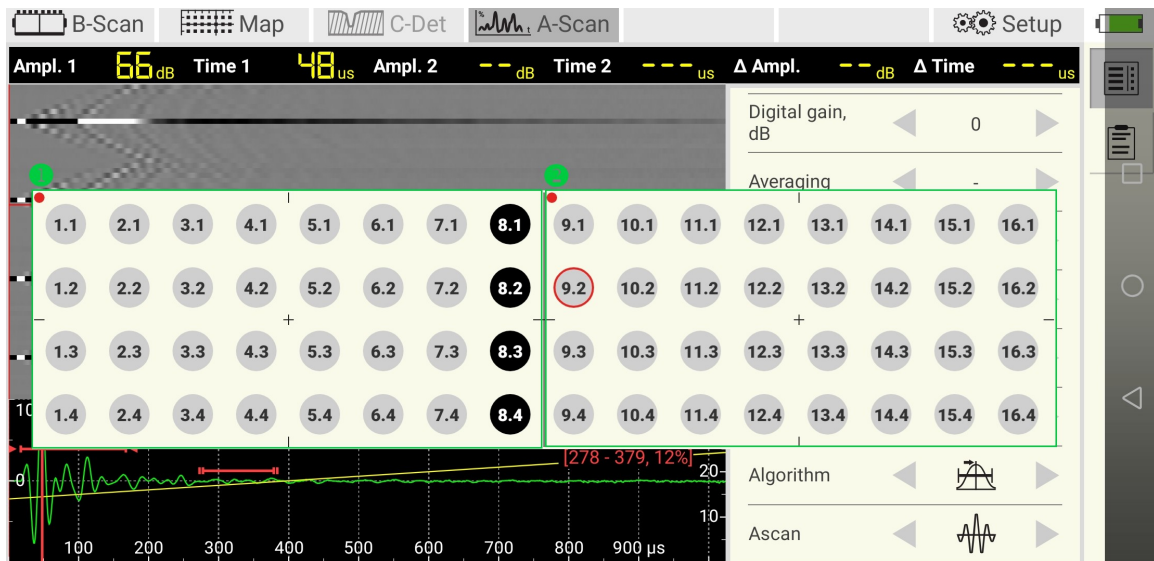

Figure 13: Selection a group of transmitters in linear mode
The farm view of A1040 MIRA 3D PRO works equally to the farm view of A1040 MIRA 3D. The A1040 MIRA 3D PRO addresses the transducers of the master **[M]** and the slave **[S]** throughout (see Figure 13 ① and ②). Thus, all the 64 transducers may work independently as transmitters or receivers, separately or in groups.